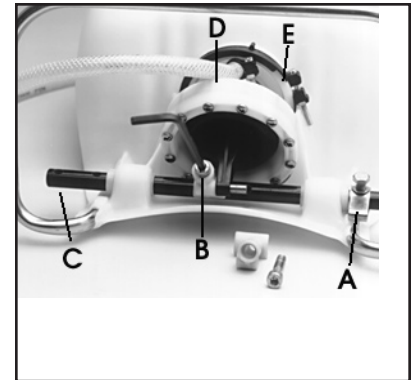

Figure 1
Lay the unit on its back with the pump assembly facing you. See Figure 1. Using the 13mm Socket or Crescent Wrench, remove the stop plate (A), washer and bolt from the pump shaft. Next remove the two (2) 6mm Allen head bolts (B) that attach the connecting brackets to the pump shaft (C). Take care not to lose the wrist pin when removing the connecting brackets. Remove the pump shaft and handle. Next loosen the hose clamp and remove the hose. (CAUTION: There may be liquid inside the hose and the pressure cylinder even when the tank is empty.) Next remove the clamp that secures the pump in the bottom of the sprayer tank (E). Save all of these parts.